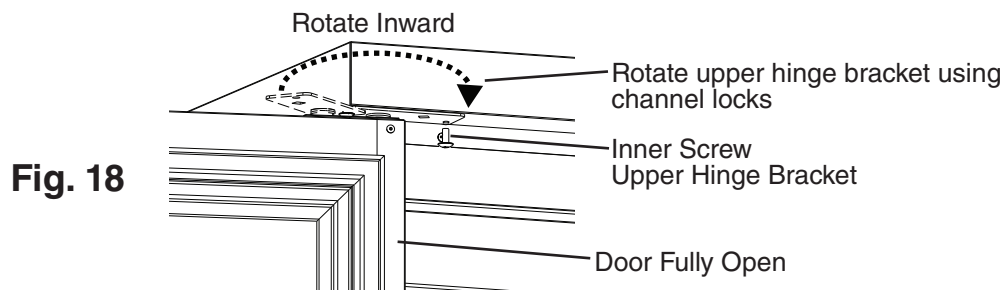

Fig. 18
- 14) Rotate the upper hinge bracket inward into position using channel locks. See Fig. 18.